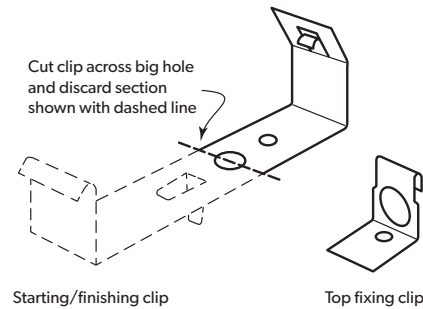

Figure 9.4.2
1. Locate the first sheet over the fixed starting clips (Figure 9.4.2).
Place the last sheet over the finishing clips, and bend the tab of all clips over the rib. (Similar to the steps used in the first sheet. Figures 9.4.2 & 9.4.3).